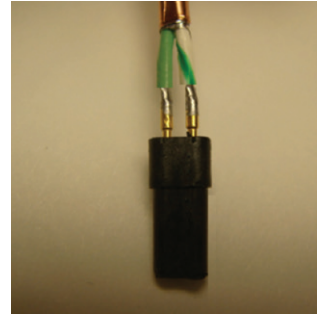

Figure 26: Soldering the twisted pair
18. Solder each twisted pair into a set of contacts. With the solder cup's opening facing you, solder the solid primary into the left contact and the striped primary into the right contact (Figure 26). After soldering all four twisted pairs, clean the solder joints using isopropyl alcohol or an equivalent flux cleaner.